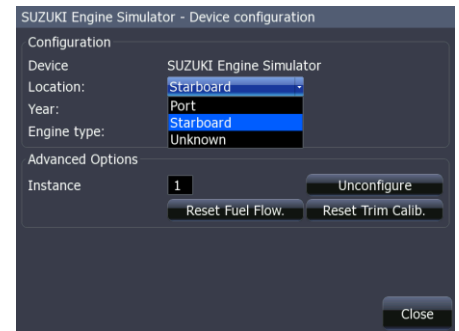

Figure 4.A
- 4) Now Data overlays and the Info gauge screen can be set up. (Figure 4.A)